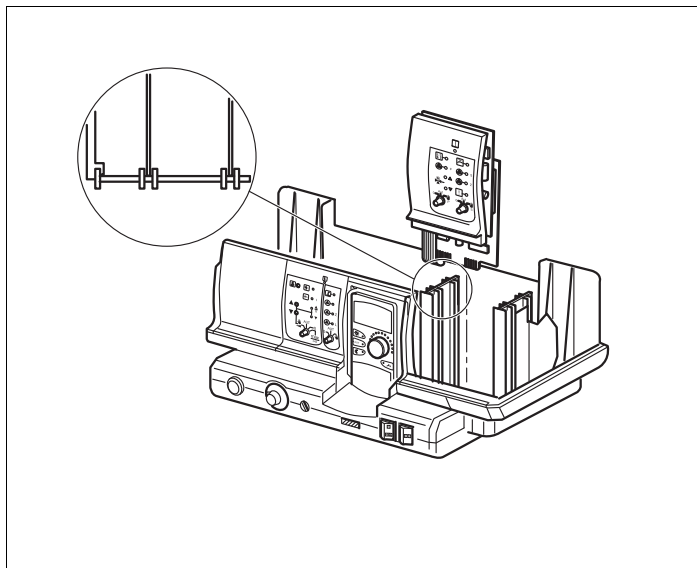

Fig 15 Module installation and removal
- Push new module from above into the free slot by pressing on the sensor strip (→ Fig. 15) until it clicks audibly into place.
- Push new module from above into the free slot by pressing on the sensor strip (→ Fig. 15, page 24) until it clicks audibly into place.